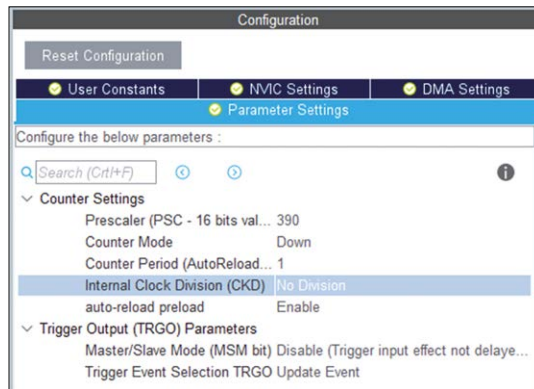

Figure 9.20: Timer Parameter Settings.
- In **Parameter Settings** set the **Prescaler** to **390**, **Counter Mode** to **Down**, **Counter Period** to **1**, enable **auto-reload preload**, set Trigger Event Selection TRGO to Update Event (see Figure 9.20).